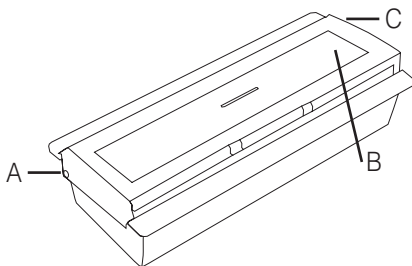

Figure 1: Doorbell pushbutton
- a) Place the doorbell pushbutton in such a way on the work surface that the two rotation axes of the transparent plastic face are at the rear (fig. 1 A and C).
- b) Using a pointed object (e.g. biro) carefully press now the small pin on the left side (fig. 1 A).
- c) Now you should be able to push up and remove the transparent plastic face (fig. 1 A).
- d) You can now open the small screw (fig. 1 B) using a small Phillips screwdriver and remove the front of the doorbell pushbutton behind which there is the PCB with the battery.
- b) Before assembling ensure that the small screw (fig. 1 B) can grip at the right spot. If required turn one part of the housing by 180°. Please make sure that the rubber gasket sits correctly within the housing.
- d) Carefully drive in the small screw (fig. 1 B) with a small Phillips screwdriver.
- e) Now hold the doorbell pushbutton in such a way that the small screw (fig. 1 B) is on the right.
- f) At the right side of the pushbutton there is a small opening (fig. 1 C) where the hinge pin of the transparent plastic face can be inserted.
- g) You can now position the transparent plastic face in such a way until it has almost reached its final position. You only have to carefully press the small pin (fig. 1 A) and to lock the transparent plastic face in place.
- g) Carefully drive in the small screw (fig. 1 B) with a small Phillips screwdriver.